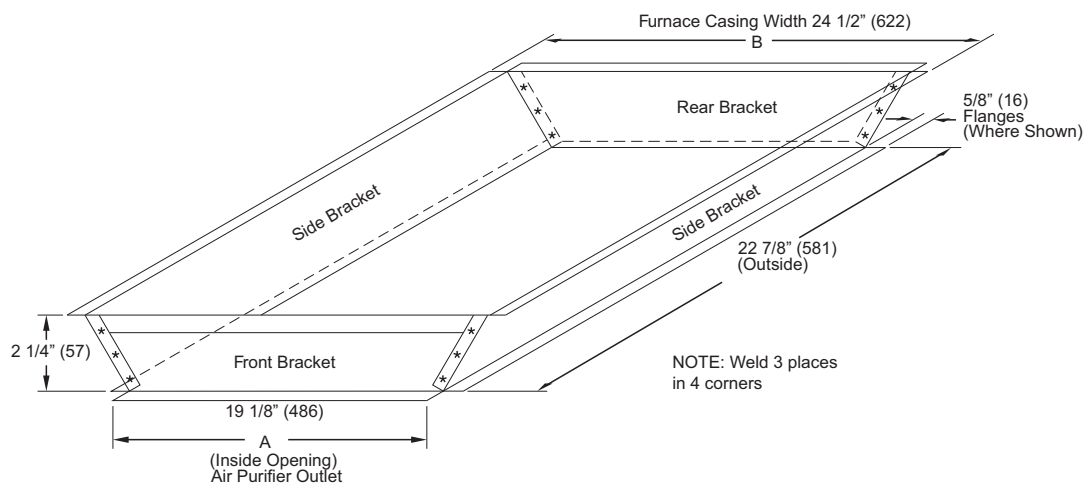

Fig. 10 - Transition
1. Prepare transition, following recommended transition drawing (see Fig. 10). Fabricate a 2 1/4 inch (57 mm) tall (minimum) transition.